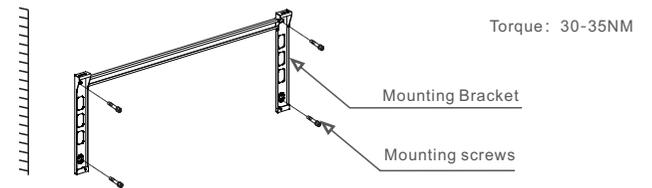
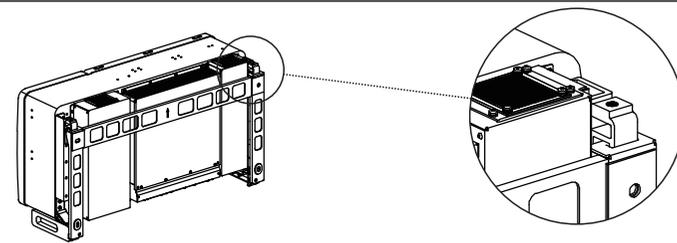

Figure 3.8 Inverter wall mounting
Figure 3.9 Install the inverter
Refer to figure 3.8 and figure 3.9 Inverter shall be mounted vertically.
1. Refer to Figure 3.8, drill holes for mounting screws based on the hole diameter of bracket using a precision drill keeping the drill perpendicular to the wall. Max depth is 90mm.
2. Make sure the bracket is horizontal. And the mounting holes (in Figure 3.8) are marked correctly. Drill the holes into wall at your marks.